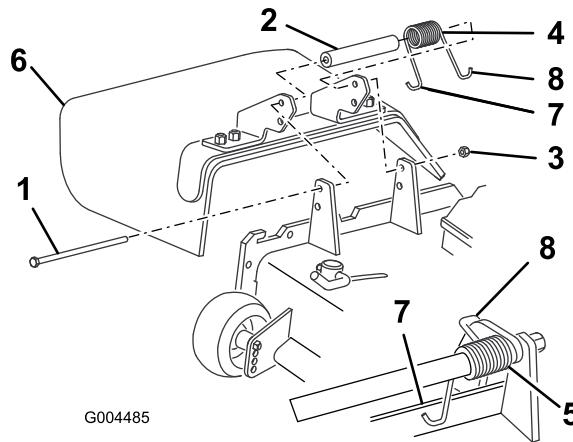

Figure 25
- Remove the locknut, bolt, spring and spacer holding the deflector to the pivot brackets (Figure 25). Remove damaged or worn grass deflector.
- Place the spacer and spring between the replacement grass deflector brackets (Figure 25). Place the left
Note: Make sure the left hand J hook end of the spring is installed behind the mower edge before installing the bolt as shown in Figure 25.
4. Install the bolt and nut. Place the right hand J hook end of the spring around the grass deflector (Figure 25).